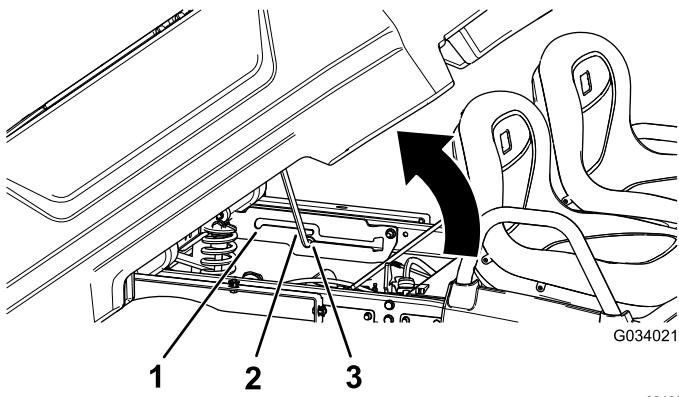

Figure 12
2. Pull the prop rod into the dump position detent slot to secure the bed for dumping (Figure 12).
2. Pull prop rod into the service position detent slot to secure the bed for maintenance (Figure 12).
2. Pull the prop rod out of the detent slot (Figure 12).